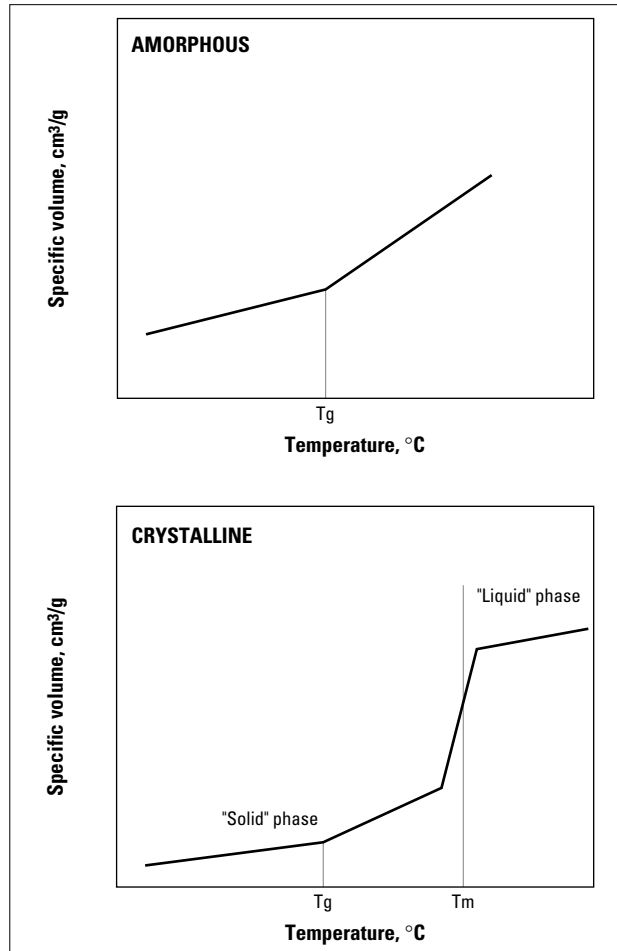

Fig. 2.01 Specific volume as function of temperature for amorphous and crystalline polymers
The effect of the temperature (T) or volume (V) is illustrated in Fig. 2.01 for an amorphous and a crystalline polymer.